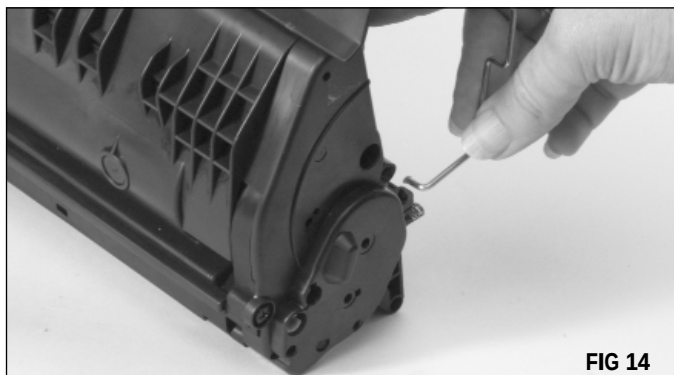

FIG 14
4. Remove the actuator arm support bar from both sides of the hopper body (FIG 14). Note: Helical gear side is keyed.